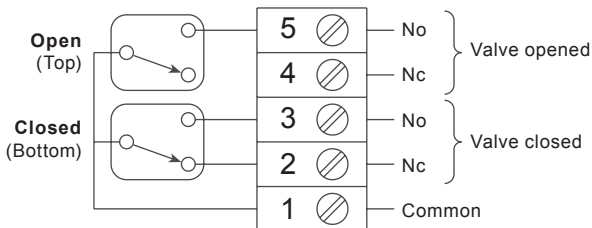

Fig. 3 SLM1 wiring diagram
Referencing Figure 3 - Check the **continuity** between contact 1 and contact 3 (NO) and the **non continuity** between contact 1 and contact 2 (NC) with an ohmmeter.
Referencing Figure 3 - Check with the ohmmeter the **continuity** between contact 1 and contact 5 (NO) and the **non continuity** between contact 1 and contact 4 (NC).